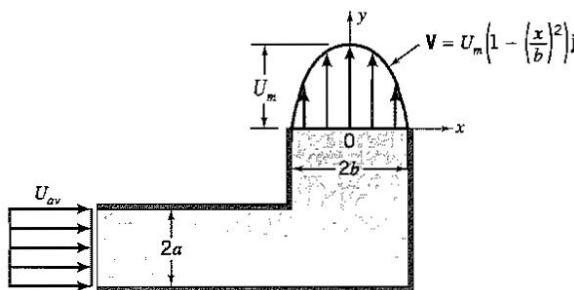

Figure P3.33
3.33 Air of constant density flows steadily through the rectangular duct of width W shown in Figure P3.33. At the entrance, the velocity is constant across the area and equal to U_{av} . The velocity at the exit has a parabolic distribution across the duct, with a maximum value U_m . The pressure is constant everywhere. By using the continuity equation, find the ratio b/a such that $U_m = U_{av}$. Then find the force \mathbf{F} exerted by the flow on the duct, assuming that the wall friction is negligible.